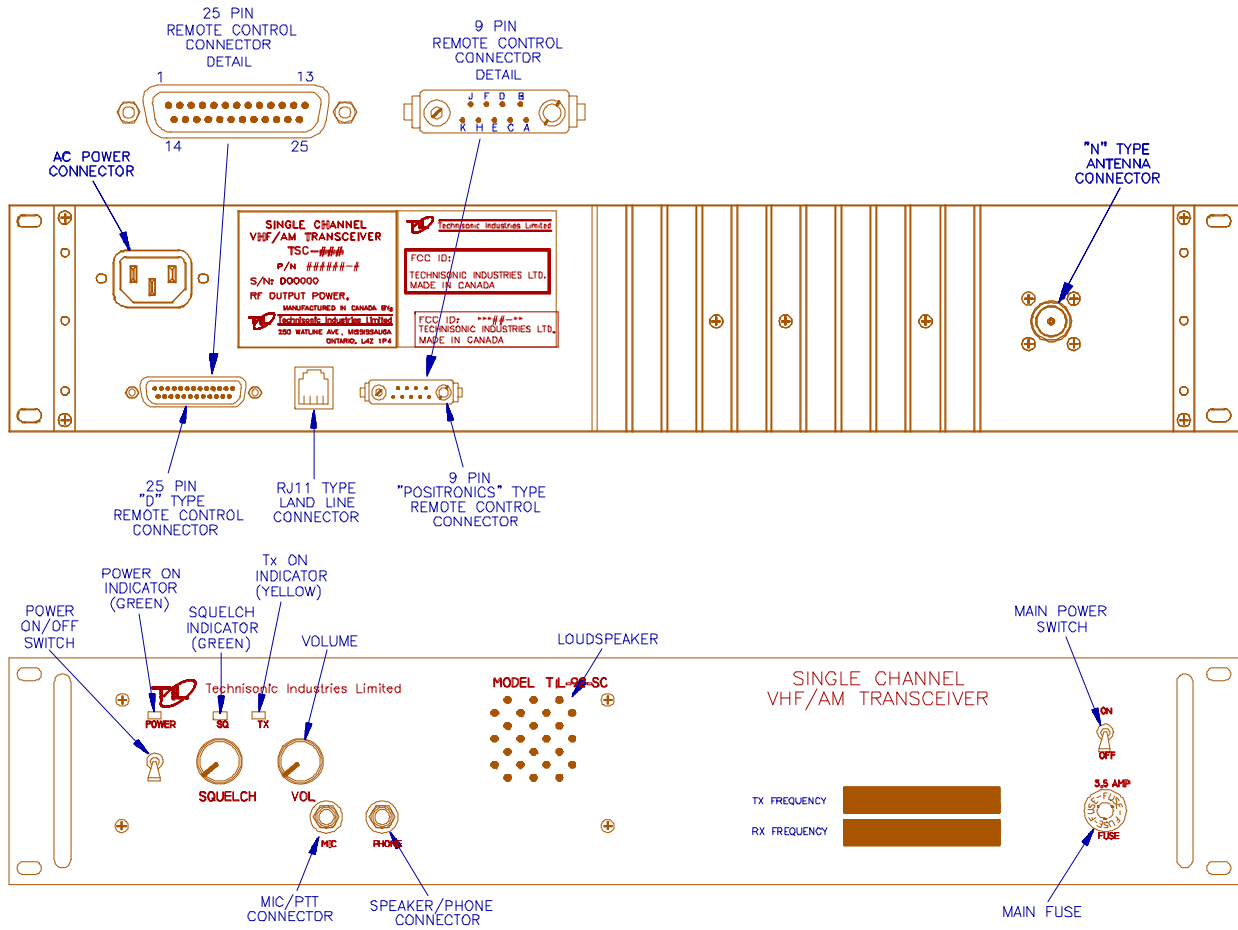

Figure 3.1 Single Channel Transceiver Controls and Indicators
Provision is made for connection of an external loudspeaker or headphone to the SPEAKER/PHONE jack of the transceiver, as shown in Figure 3.1.
- (1) Mount Transceiver in 19 inch rack with 4 screws.
- (2) Install Microphone in Microphone (PTT) connector if required.
- (3) Ensure that Transceiver POWER ON/OFF switch is set to OFF.
- (4) Install AC line cord in AC chassis connector on rear panel.
- (5) Install Remote Control connector to 9 Pin or 25 Pin connector as required. (Refer to Figure 3.1 for connector pin outs.)
- (6) Connect antenna connector to rear panel chassis N Type connector.
A view of the front and rear panel is given in Figure 3.1. A functional description of each of the operator's switches, controls and indicators, and the microphone PRESS-TO-TALK switch, is given in Table 3.1, Operator's Switches, Controls and Indicators.
- (1) Set AC ON/OFF switch to OFF.
- (2) Refer to Table 2-3 for pin numbers and Figure 3.1 for pin locations to hook up external DC Power.